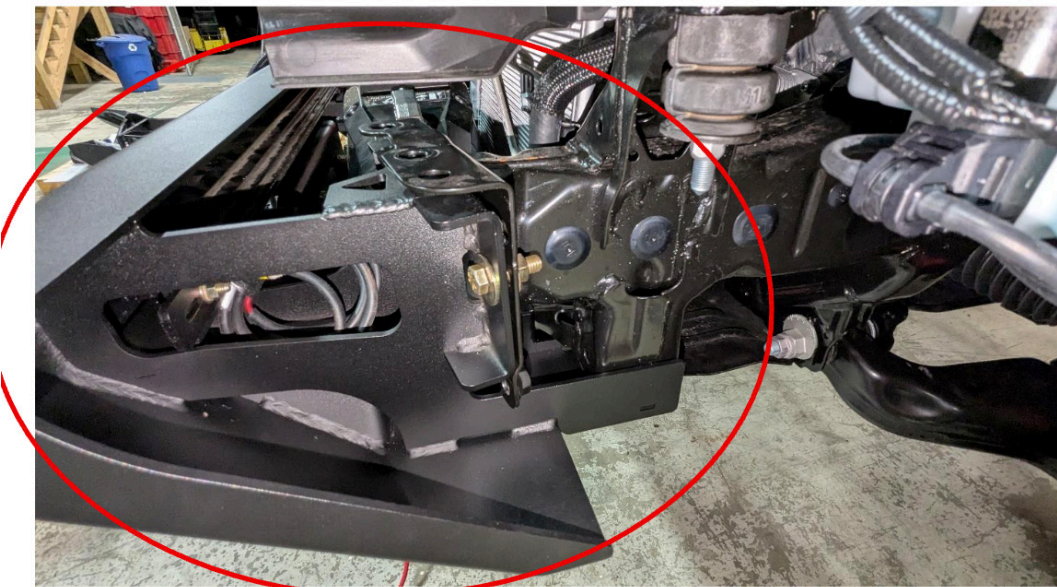

Figure 39
27. With assistance, hold the assembled winch mount (part#: 23459) into place on the vehicle frame. (Figure 39)